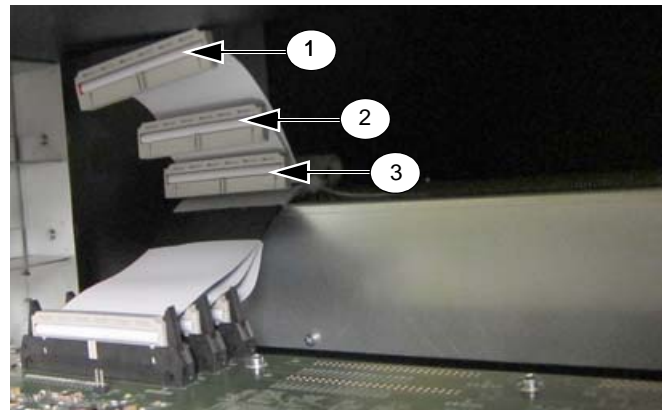

Figure 22. I/O card ribbon cables
- For a card installed in the top slot of Stage 48, use the cable that is labeled in Figure 22 as “1.”
- For a card installed in the middle slot, use the cable that is labeled in Figure 22 as “2.”
- For a card installed the bottom slot, use the cable that is labeled in Figure 22 as “3.”